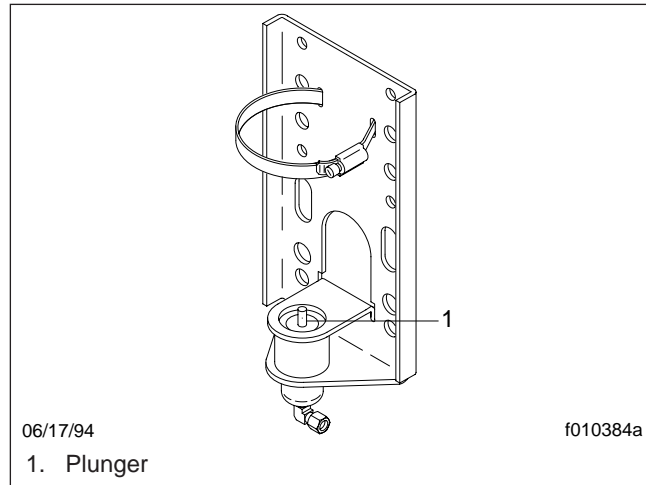

Fig. 2, Valve Plunger
- 4.3 Crank the starter, and look for the valve plunger (see Fig. 2) to move up and stay up while the starter is cranked.